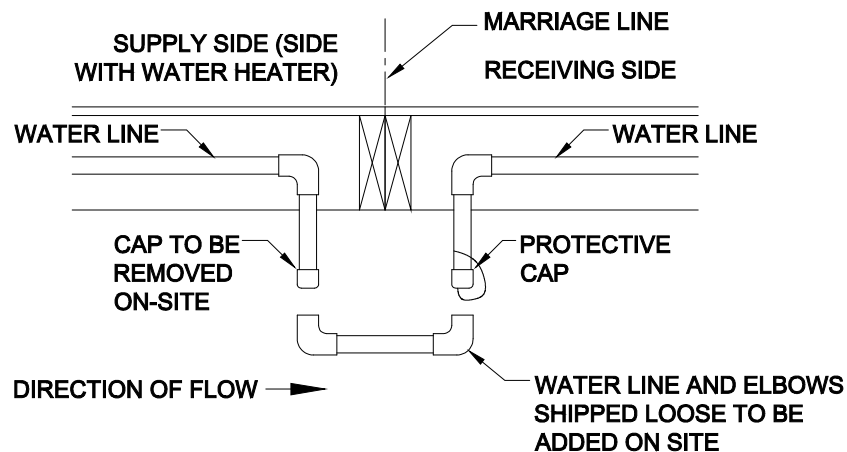

Figure 45. Water line crossover through bottom board
2. **Connect pipes.** Connect threaded water lines using flexible pipe or a rigid connector line (if provided) and connector fittings (do not use lubricants or sealants) (**Figure 45**).